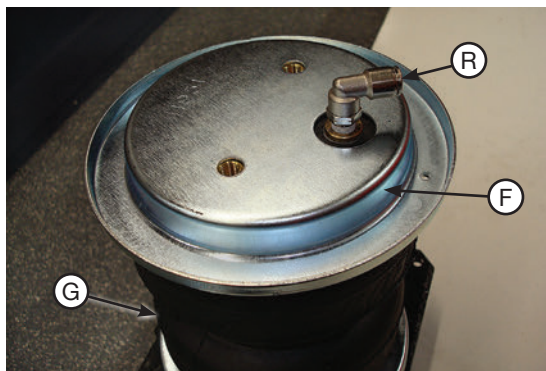

fig. D.7
1. Set a roll plate (F) on top of the air spring (G). The radiused, or rounded, edge of the roll plate should be toward the air spring so that it is seated inside the roll plate (Fig. D.7). Install the 90° swivel fitting (R) into the port on top of the air spring, finger tight plus 1 1/2 turns.